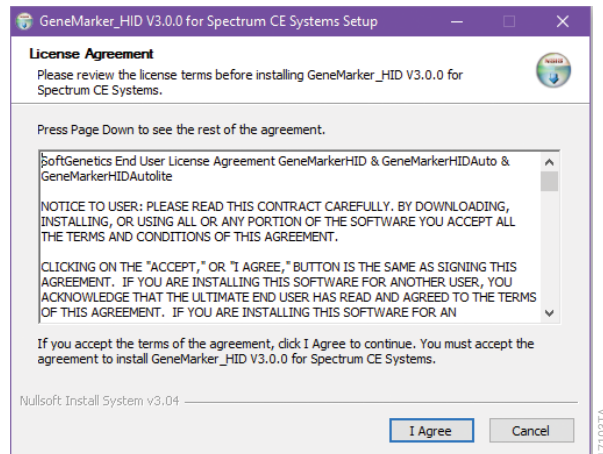

Figure 21. 'License Agreement' window.
3. GeneMarkerHID is now in the 'Registered Products' list of the LSM (Figure 21). The server name or IP address of the computer where the LSM is installed is displayed in the lower left corner of the LSM in the format 'servername or IPaddress:portnumber'. Record the server name or IP address for use in configuring client computers (Section 2.B.3.B).